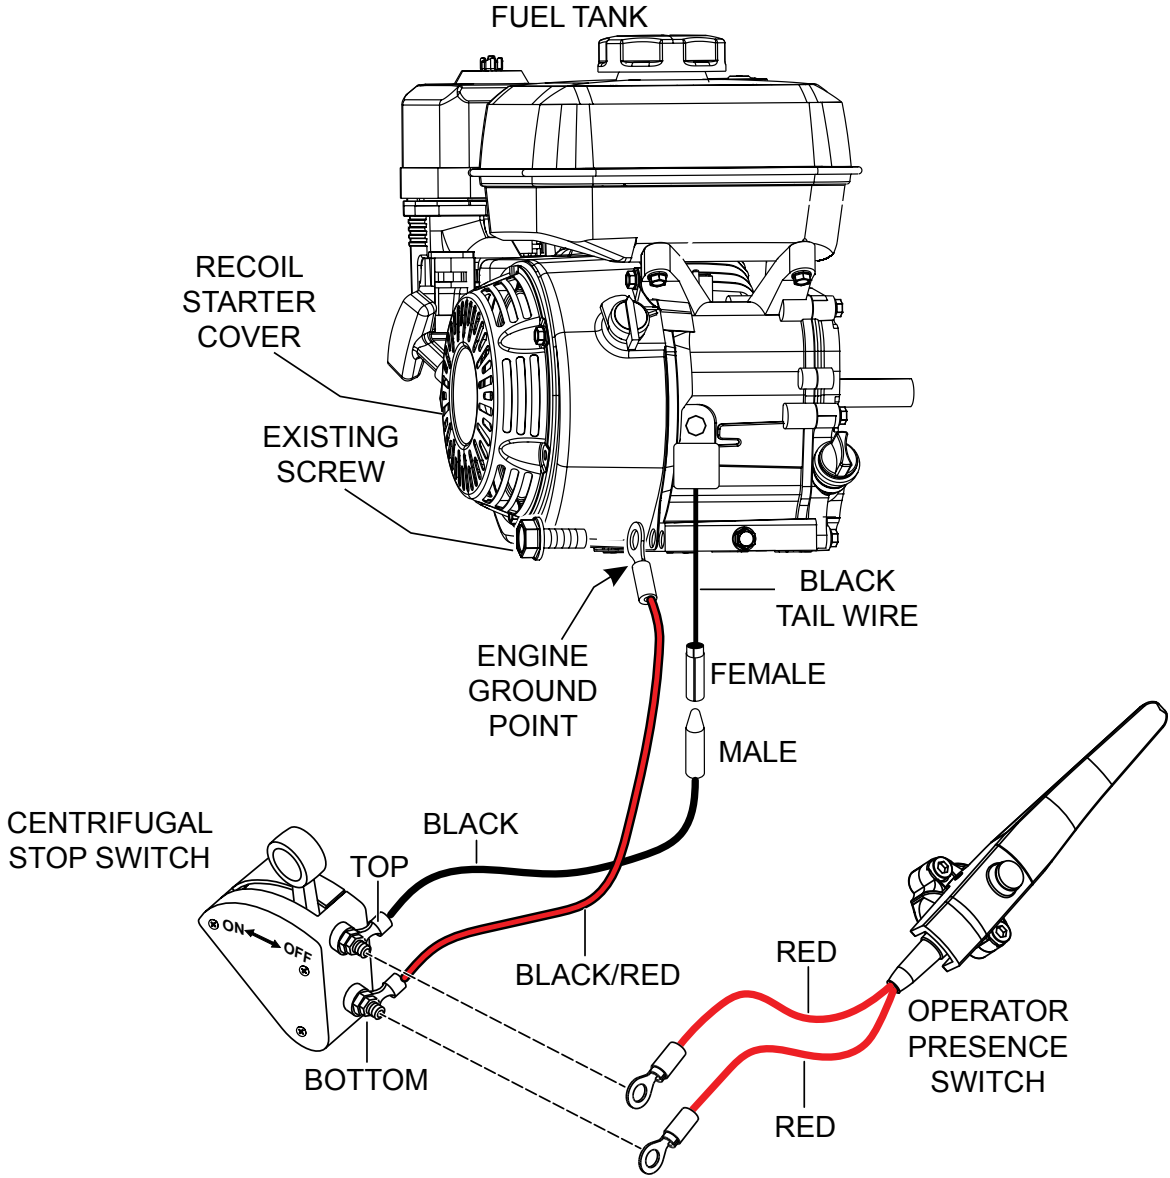

Figure 13. Safety Stop Switch Connections
Centrifugal Safety Stop switches are equipped with 2 wires. Connect bottom **BLACK/RED** wire (Figure 13) directly to engine ground.
Operator Presence switches are equipped with 2 wires. Connect bottom **RED** wires (Figure 13) directly to the Centrifugal Stop Switch top and bottom connections.
2. Connect the black tail wire from the engine to the **top black** safety stop wire from the centrifugal stop switch as shown in Figure 13.
3. Using a 10MM socket, remove the existing bottom mounting screw on the recoil starter cover (Figure 13) and connect the **bottom black/red** wire from the centrifugal stop switch.